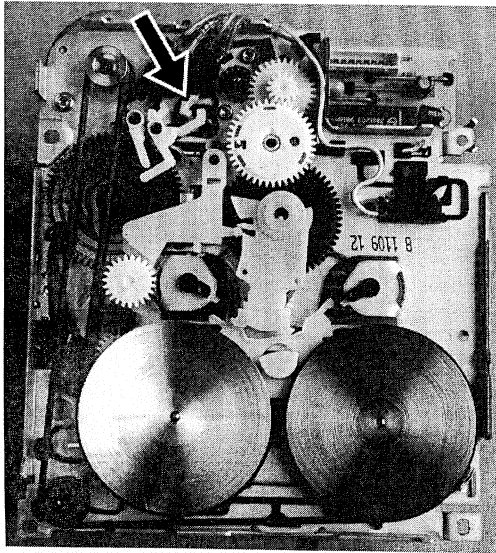

Figure 1
The transport disc (pos. 33) must be in the position, shown in fig. 1.
***NEVER** turn the transport disc, unless it is not in the 'Eject' position (yet)! If not in 'Eject' position, turn the NOR fly-wheel pos. 11 counter-clockwise until the transport disc reaches the 'Eject' position.*
Before disassembling the tape deck, take care that the cassette holder pos. 51/52 is in the **eject** position. See figures 1 and 11.